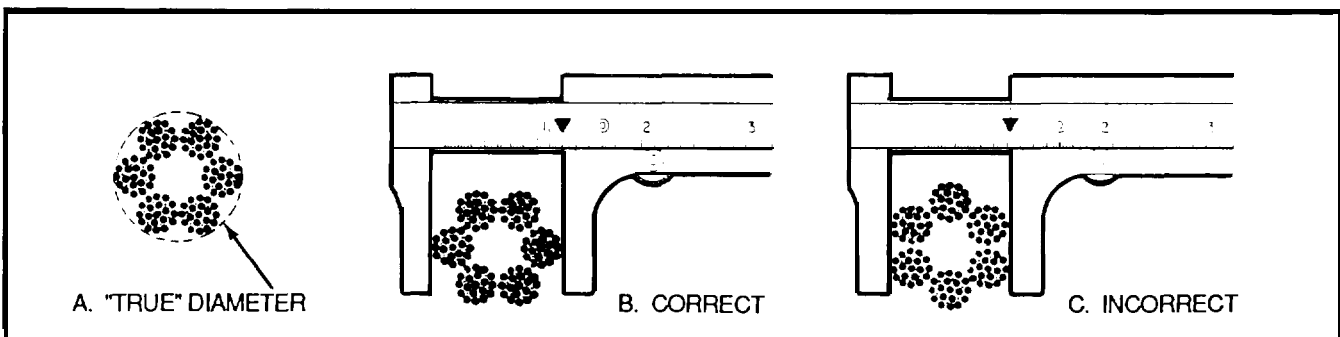

Figure 4-21. *How to Measure (or caliper) a Wire Rope*
It is most important to check the diameter of the delivered rope before installation. This is to make certain that the rope diameter meets the specified requirements for the given machine or equipment. With an undersize diameter rope, stresses will be higher than designed for and the probability of breaking the rope will be increased; an oversize diameter rope will wear out prematurely. This happens because of abuse to the rope caused by pinching in the grooves of the sheave and drum. In checking, however, the “true” rope diameter must be measured. And this is defined as the diameter of the circumscribing circle, i.e., its largest cross-sectional dimension. To insure accuracy, this measurement should be made with a wire rope caliper using the correct method (B, Figure 4-21). For measuring ropes with an odd number of outer strands, special techniques must be employed.
In measuring a wire rope correctly, always measure the larger dimension. The “true” diameter (A) lies within the circumscribed circle (B). Avoid using incorrect measurement position (C, Figure 4-21).